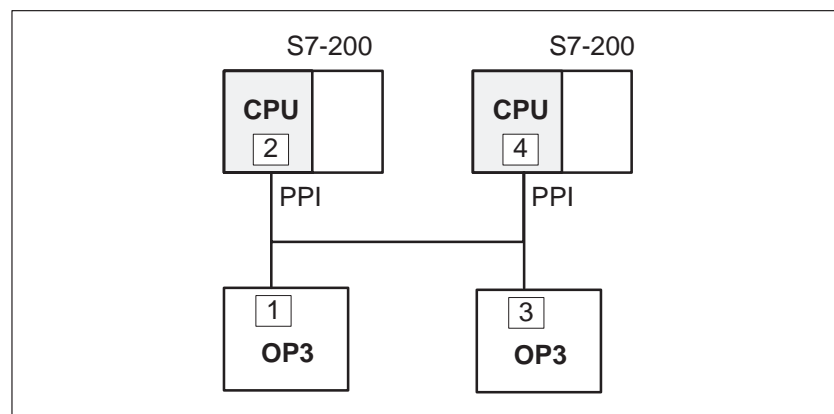

Figure 12-1 Connecting an OP3 to a SIMATIC S7-200
In a PPI network configuration, the OP3 and the programming unit (PU) are always masters; the S7-200 is always the slave. An S7-200, however, can communicate only with one master. Figure 12-1 shows a possible network configuration. Numbers 2, 4, 1 and 3 are address examples.